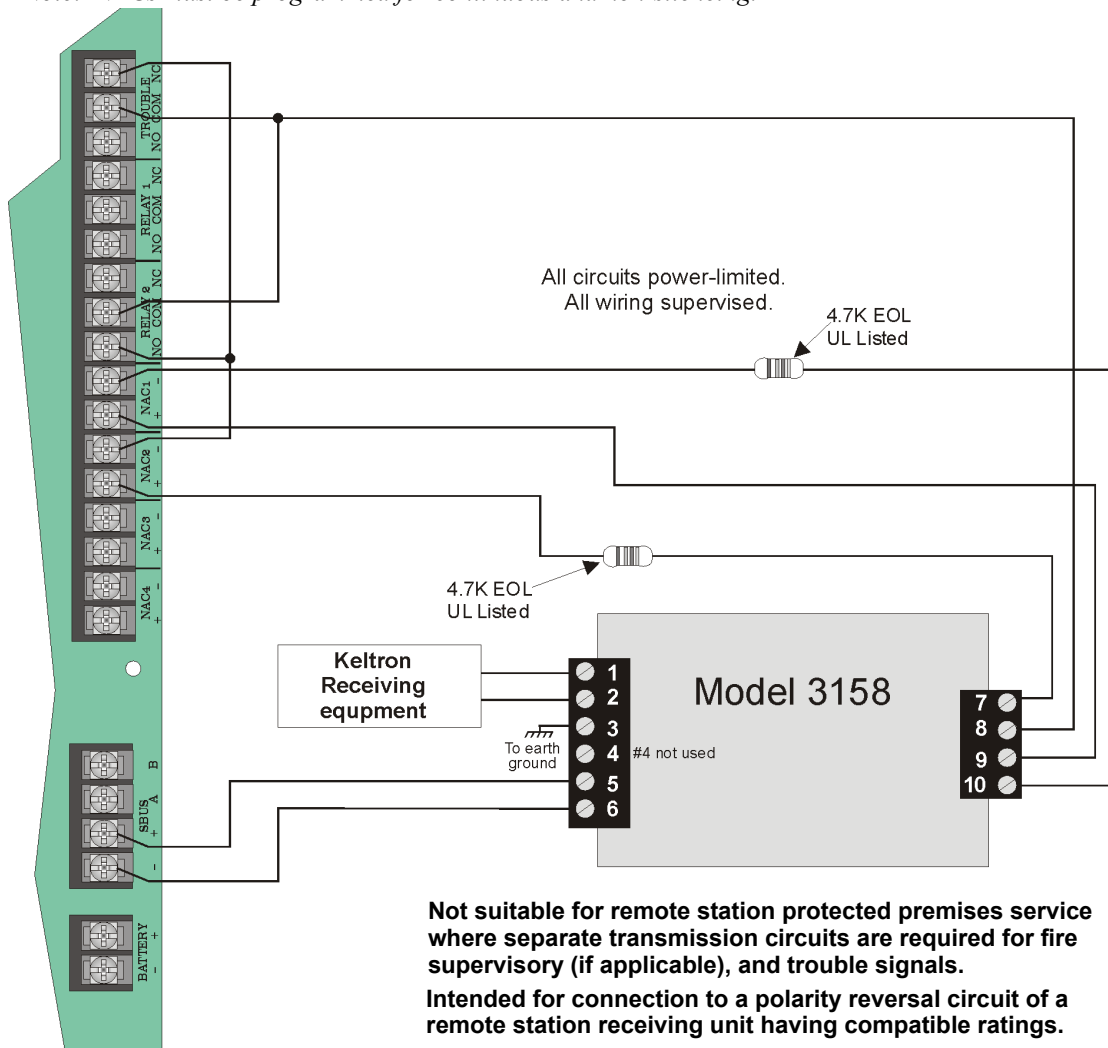

Figure 4-31 Keltron 3158 Connection to Control Panel
1. Wire the 3158 to the control panel as shown in the connection list and Figure 4-31.